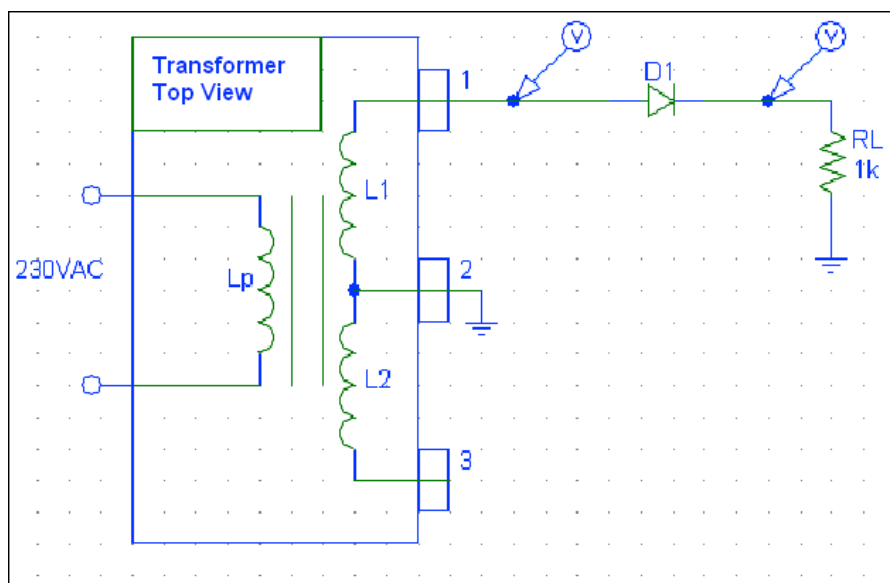

Fig. 1 Half-wave rectifier circuit
1. Solder the circuit illustrated in fig. 1. Note that the transformer is an external device. Connect it using banana cables.
2. Connect the oscilloscope probes to the test points indicated by voltage markers (fig.1). Connect the ground leads of the oscilloscope probes to the circuit ground.